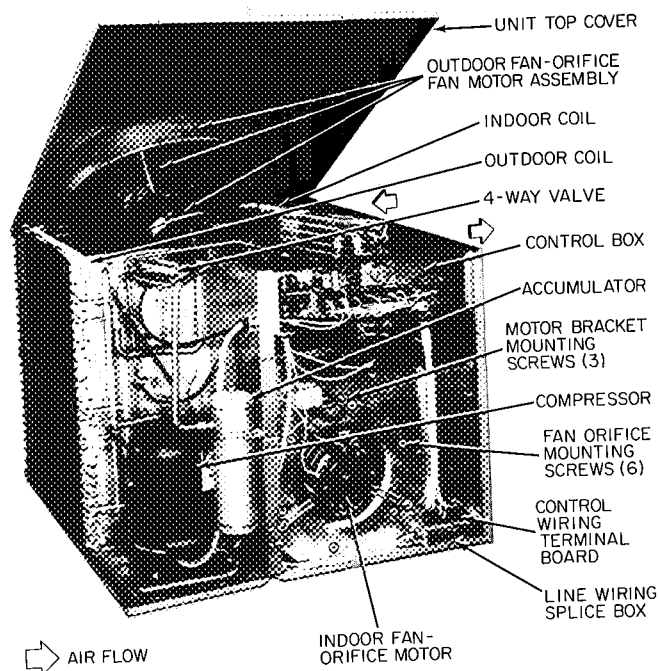

Fig. 10 – Component Location
See Table 6 for compressor information and Fig. 10 for component location.
COIL – Lift or remove unit top cover for access to indoor coil. See Fig. 10. Inspect coil periodically. Clean as described under Condenser (Outdoor Coil) below.
Indoor Fan Removal – See Fig. 10. Disconnect fan motor wiring. Remove sheet metal screws (6) holding fan orifice in place. Remove fan motor bracket mounting screws (3). Slide out complete fan, motor and orifice assembly.
COIL – Lift or remove top cover for access to outdoor coil. See Fig. 10. Inspect coil periodically. Clean coil with water at the beginning of every cooling season or more often if required. Use ordinary garden hose at a pressure high enough to clean efficiently. For best results, spray coil fins from inside-to-outside the unit or top to bottom between rows of tubing. Flush dirt from base pan by spraying water thru top of unit. Avoid splashing mud on coil or water on the fan motor.
OUTDOOR FAN AND MOTOR REMOVAL – Remove screws holding outdoor coil fan grille in place. Disconnect fan motor leads from controllers and capacitor. Lift complete fan, motor and orifice assembly (Fig. 10) out of unit. After replacing fan motor assembly, reconnect fan motor leads.